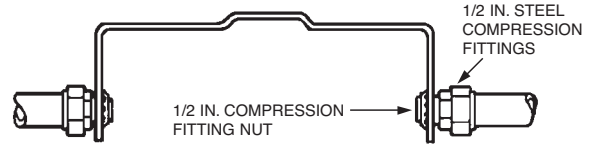

FIGURE 46
1. Secure the conduit to the detector bracket using 1/2 in. steel compression fittings. Thread the compression fitting into the detector bracket and then secure by using the lock nut supplied with the fitting. See Figure 46.